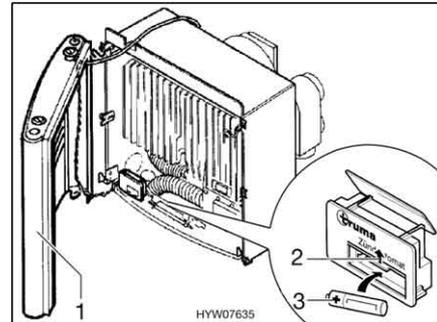

Fig. 126 Heater opened
- Turn the cover (Fig. 126,1) to the side, so that the connecting cables for the hot-air fan as well as the ignition control lamp do not need to be disconnected.
- Push battery chamber cover on the automatic ignition (Fig. 126,2) upward.
- Insert a new battery (Fig. 126,3) of the same type, correctly aligned (+/-), into the battery chamber of the automatic ignition. Only use temperature resistant (+70 °C) and leak-proof Mignon batteries.